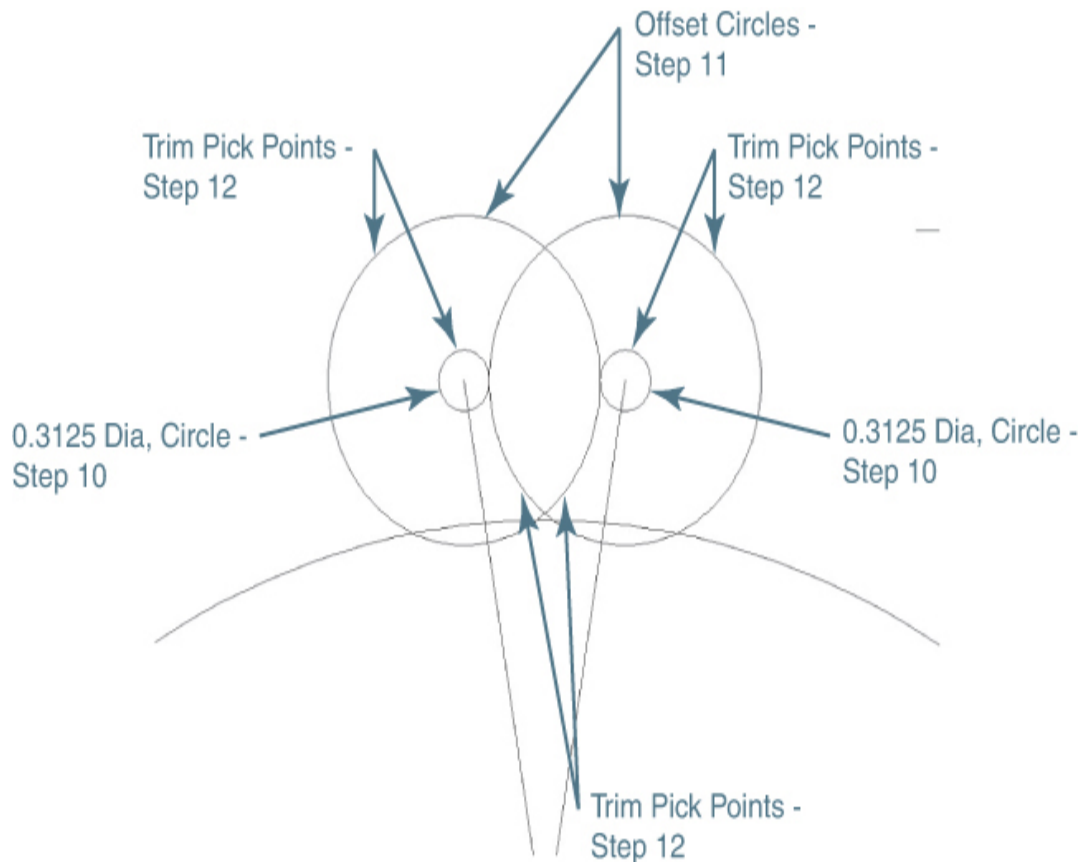

Figure 8-21
- 9** Draw two circles with a diameter of 0.3125 by snapping to the endpoints of the angled lines as shown in Figure 8-21.
- 10** Start the **OFFSET** command, and offset each of these circles **0.6875** toward the outside of each circle, as shown in Figure 8-21.
- 11** Zoom in on the two circles at the top of the drawing. Start the **TRIM** command and then select the six trim pick points shown in Figure 8-21.